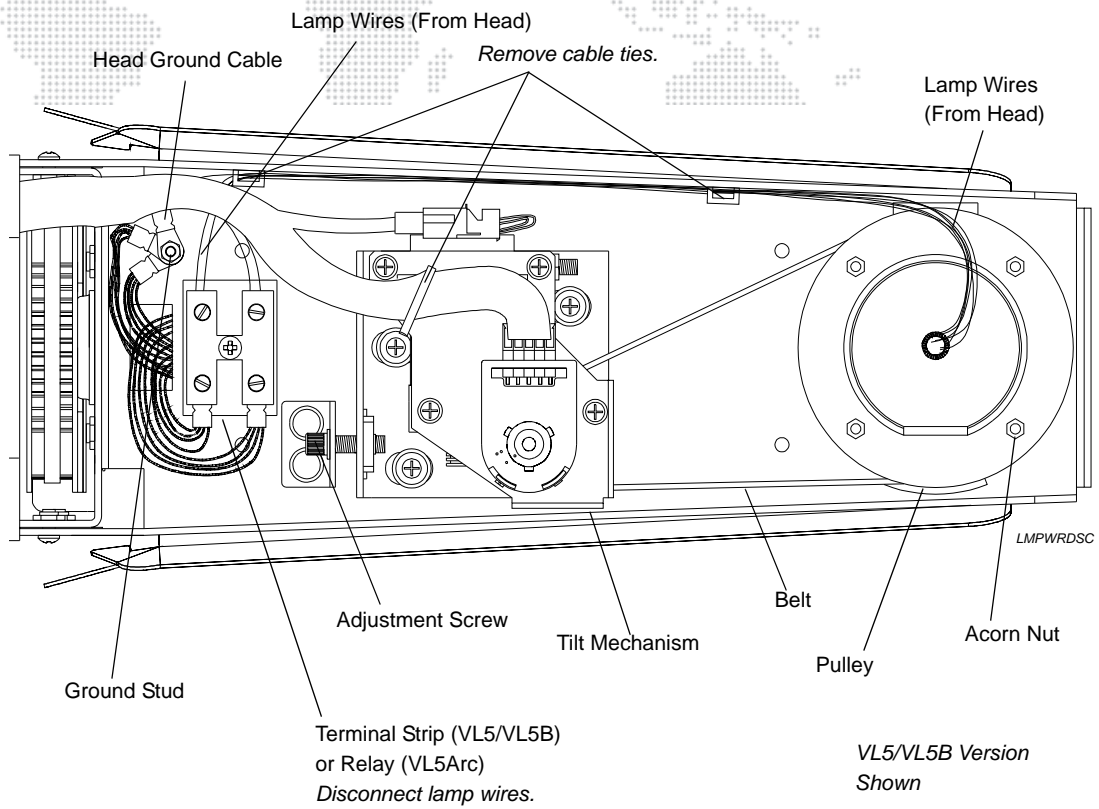

Figure 2-25: Tilt-Side Yoke Leg
- Step 3. At tilt-side yoke leg, disconnect head assembly lamp wires and ground cable. **Figure 2-25.**
- Using diagonal cutters, remove two cable ties securing lamp and ground wires to yoke leg. **Figure 2-25.**
- c. Using diagonal cutters, remove two cable ties securing lamp and ground wires to yoke leg. **Figure 2-25.**